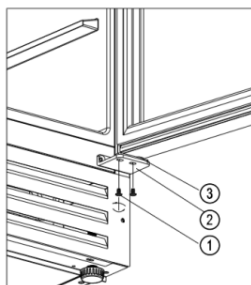

Figure 1
- Unscrew the two screws ① from the right lower hinge ② [Figure 1].